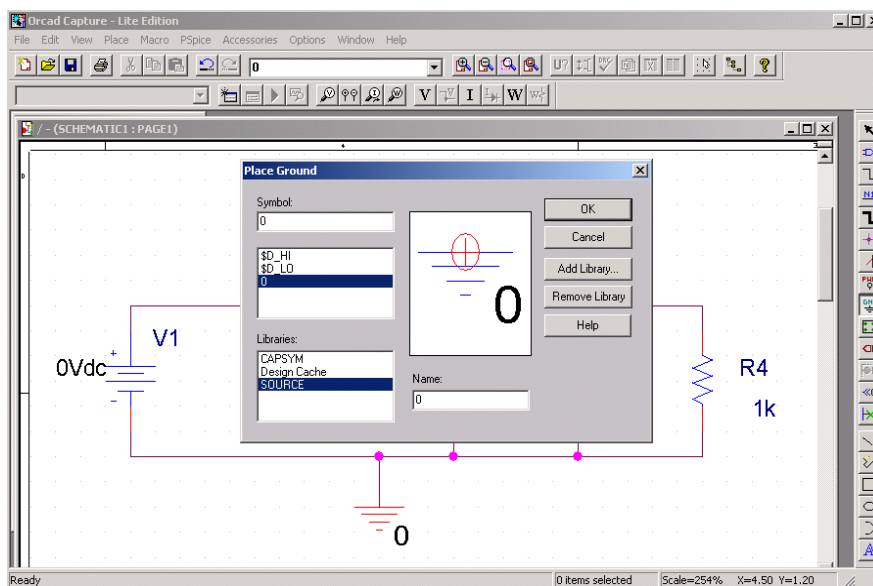

Fig. 8. Placing the ground.
1. Left click on the ground tool on the right-hand side of the screen (se Fig. 8). This brings the *Place Ground* window.
2. Select the ground named 0 / `Source` and place it at the bottom of the circuit, as shown in Fig. 8. After placing the ground symbol, right click and select **End Mode** from the pop-up menu (or press the “Esc” key).
3. Use the **Place** -> **Wire** command <Shift+W> to change the cursor into a wiring tool and wire the ground to the circuit as shown in Fig. 8.